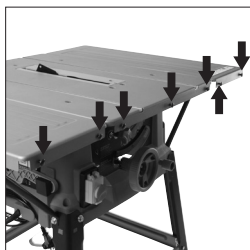

Fig. 11
- Attach the seven coach bolts (**P**) within the seven holes of the machine (two in each extension and three in the main aluminium table) using nut (**O**). Hand tighten only. **(Fig. 11)**